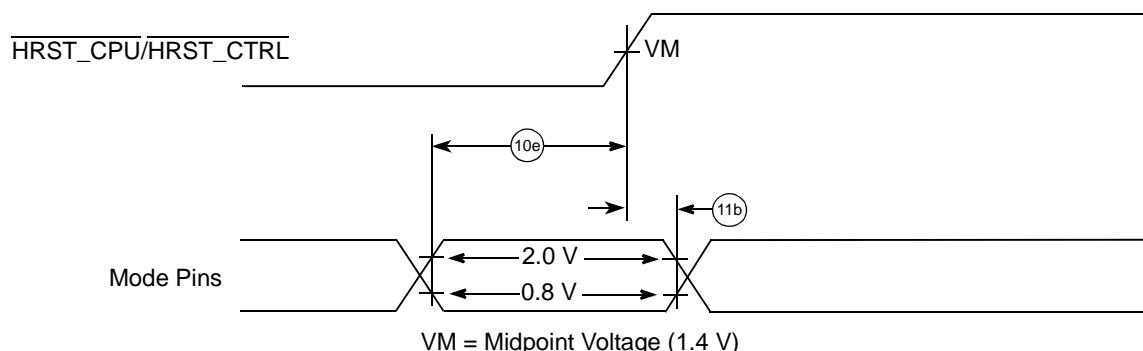

Figure 10. Input Timing Diagram for Mode Select Signals
- All mode select input signals specifications are measured from the TTL level (0.8 or 2.0 V) of the signal in question to the $V_M = 1.4 \text{ V}$ of the rising edge of the HRST_CPU/HRST_CTRL signal. See Figure 10.
Figure 10 shows the input timing diagram for mode select signals.